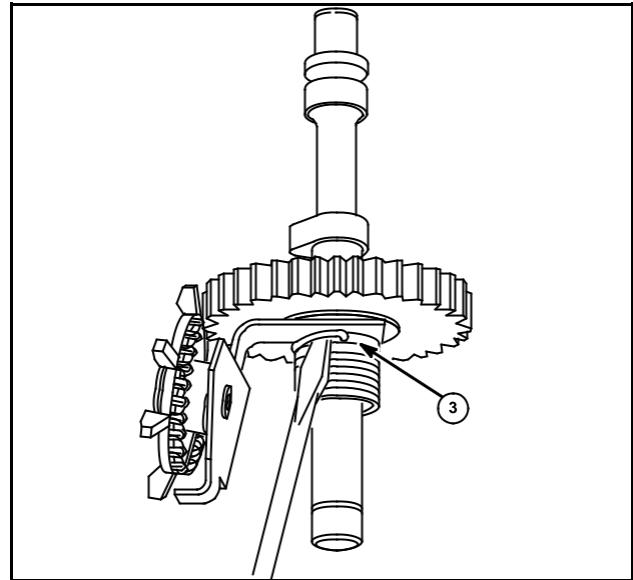

Fig. 57
5. Slide clutch spring down, Fig. 57 and lift out upper spring tab (3) to remove spring. Cam gear, oil slinger and clutch drive hub are serviced as an assembly.